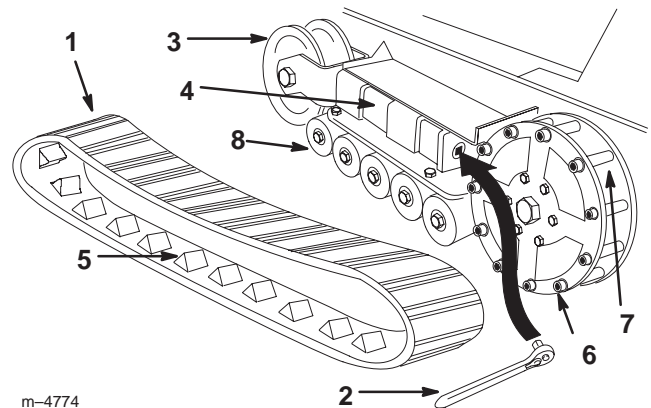

Figure 35
5. Push the tension wheel toward the rear of the unit to move the fork tube against the frame (Fig. 35). (If it does not touch the frame, continue turning the tensioning screw until it does.)
7. When the track is off of the tension wheel, remove it from the drive sprocket and road wheels (Fig. 35).
8. Beginning at the drive sprocket, coil the new track around the sprocket, ensuring that the lugs on the track fit between the spacers on the sprocket (Fig. 35).
9. Push the track under and between the road wheels (Fig. 35).